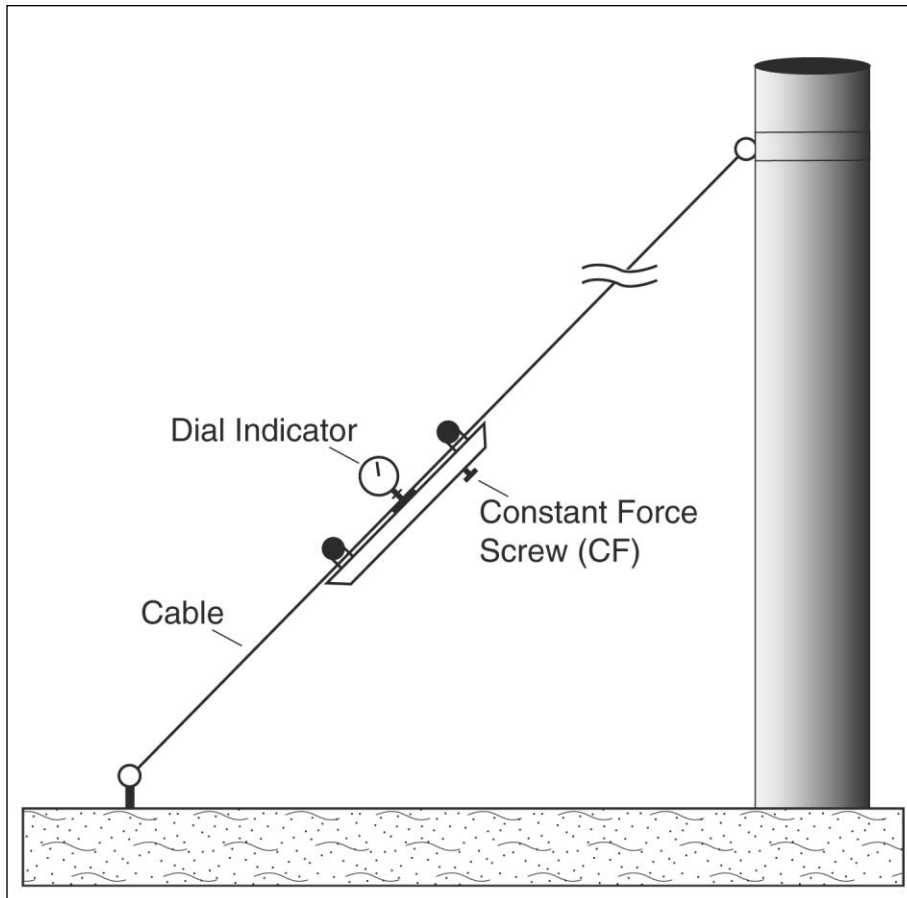

Figure 1. SY Tensiometer Measuring Setup
2. Referring to Figure 1. SY Tensiometer Measuring Setup, below, turn the knurled "constant force" (CF) screw clockwise (cw) to lower the middle, "sensing" roller sufficiently to clear the Dial Indicator shoe and the cable to be measured. The Tensiometer should then be hung on the cable by passing it under the outer "reference" rollers and over the middle "sensing" roller, without contacting the indicator shoe. (If the cable is vertical or slanted, the Tensiometer should be held, or blocked with a "C" clamp, to prevent movement, until the next step is completed).